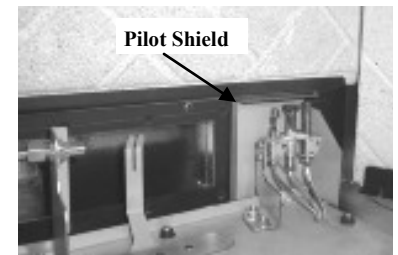

Figure 11C
3. Re-install the pilot shield. Figure 11C.